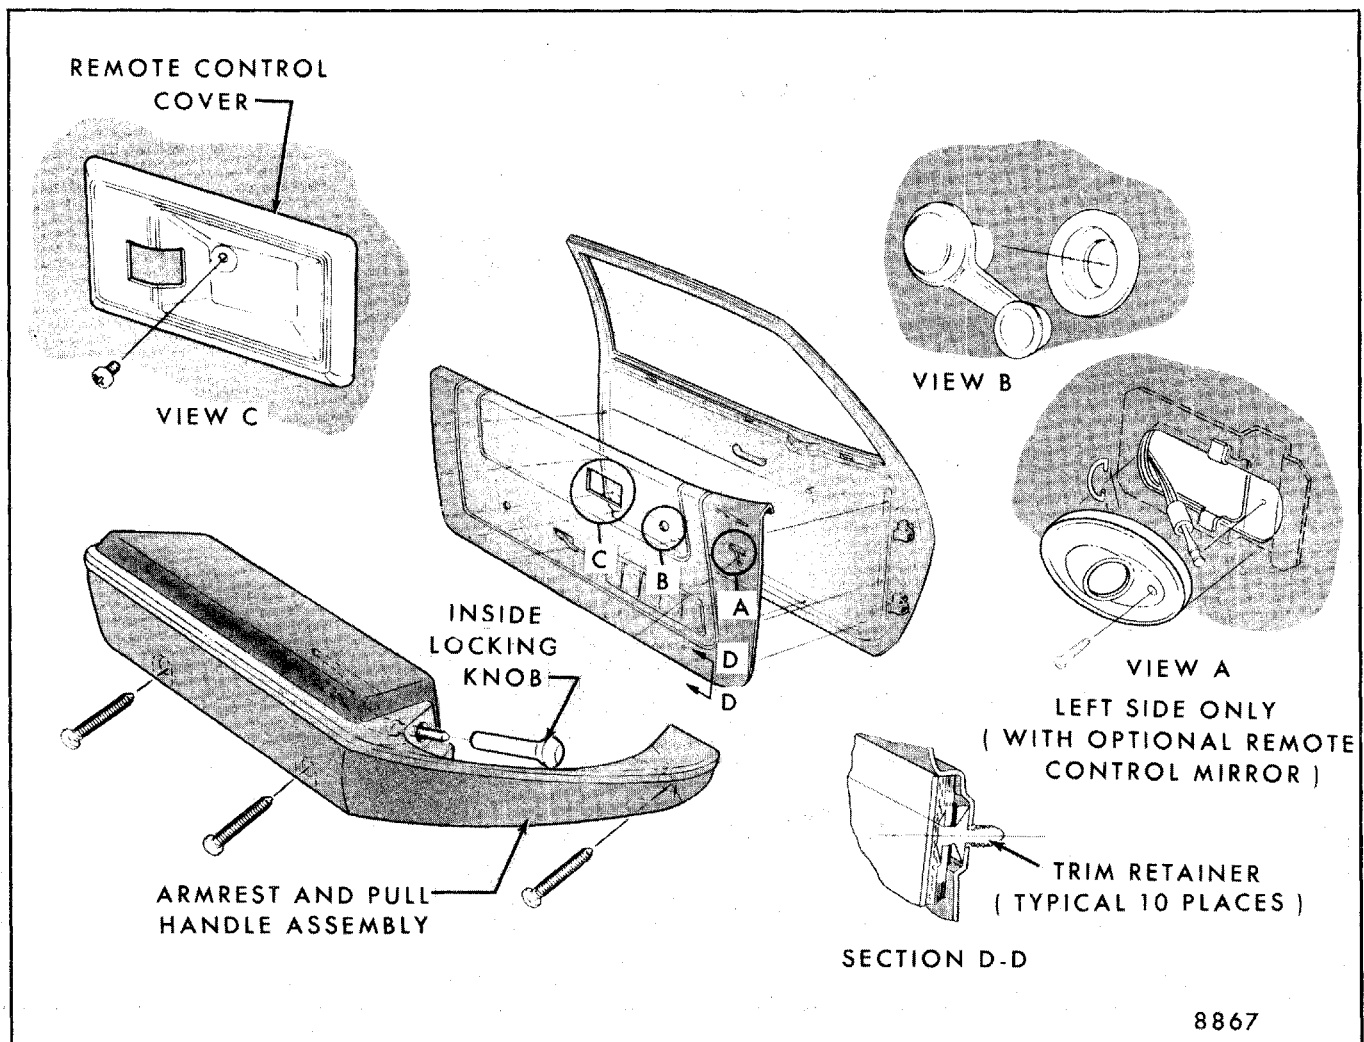
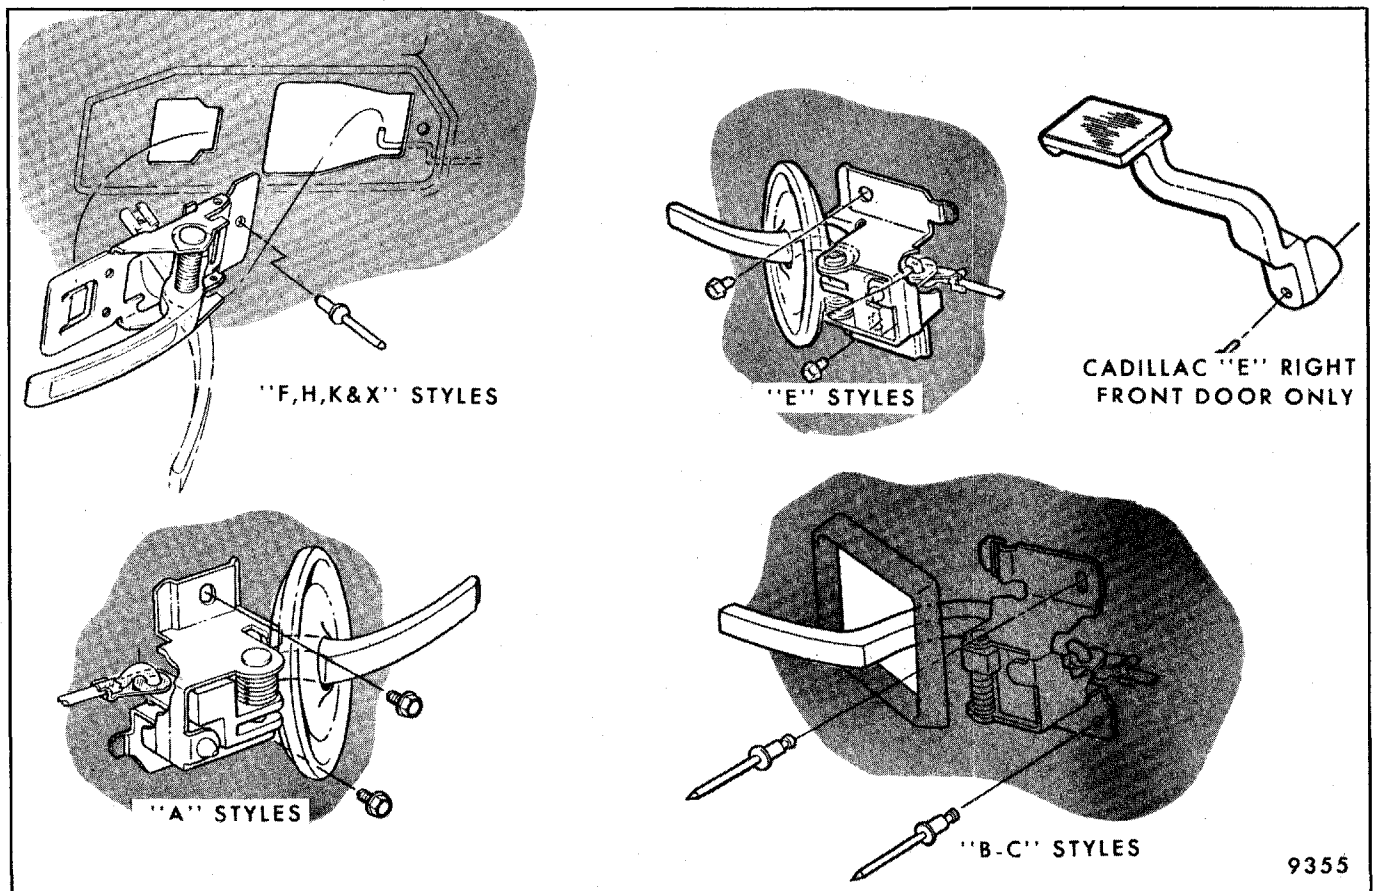
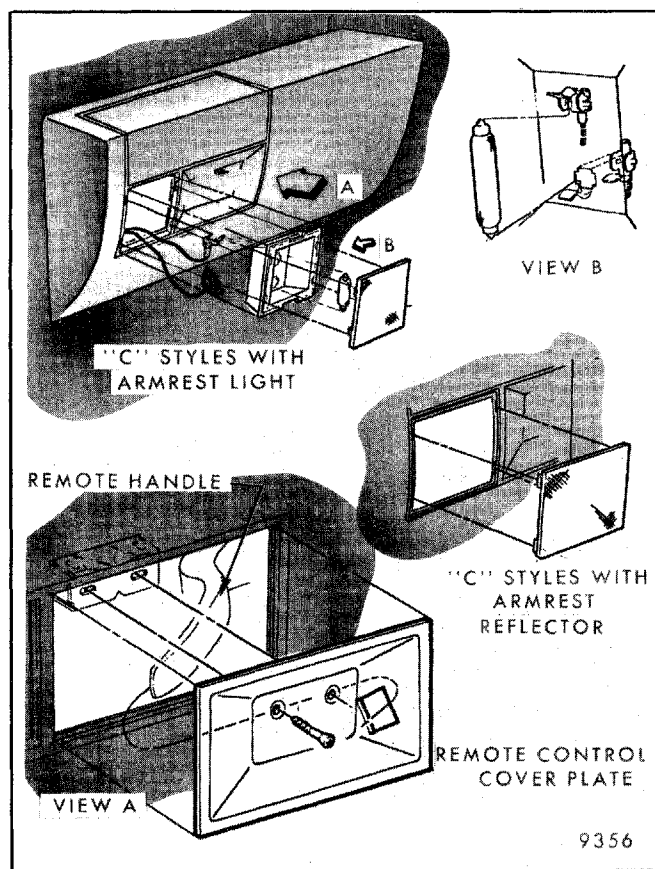

Fig. 5-6-Door Armrest and Pull Handle - Typical Attachment for "F, H and X" Styles
Fig. 5-14-Typical Door Lock Remote Control Handle and Cover Plate Installations
Fig. 5-16-Typical Remote Control Handle Cover Plate and Courtesy Lamp - "C" Body Styles
There are two basic types of door armrests: those applied after door trim installation and those which are an integral part of the door trim assembly. For removal of the first type armrests, refer to Figures 5-6 and 5-7.
Door inside handles are retained by either screws, pop rivets or spring clips (Figs. 5-14 and 5-15). On styles equipped with screw or rivet retained handles, the screws or rivets are covered by a remote control handle cover plate that can be removed as shown in Figures 5-6 and 5-16.
6. Remove remote control cover plates (Figs. 5-6 and 5-16) and remove exposed screws securing cover plate to door inner panel.
7. On styles with integral armrest, remove screws inserted through pull cup into armrest hanger support (Sec. D-D, Fig. 5-23). On "C" styles and Buick 4BZ37 style, remove attaching screws behind armrest deflector or courtesy lamp and remote control cover plate (Figs. 5-16 and 5-24). On styles with armrest applied after door trim installation (Figs. 5-6 and 5-7), remove armrest to door inner panel attaching screws.
NOTE: On styles with courtesy lamps or reading lamps located in trim assembly, disconnect wire harness at lamp assembly (Figs. 5-16 and 5-24).
9. On styles with one-piece trim assemblies, remove all clips around perimeter of door trim pad using tool BT-7323 or equivalent (Figs. 5-6, 5-7 and 5-22).